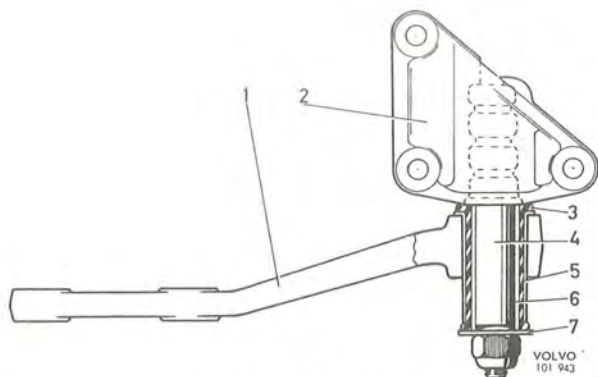

Fig. 6-42. Relay arm bearing
3. Remove the nut and washer (7, Fig. 6-42) and take down the relay arm (1).